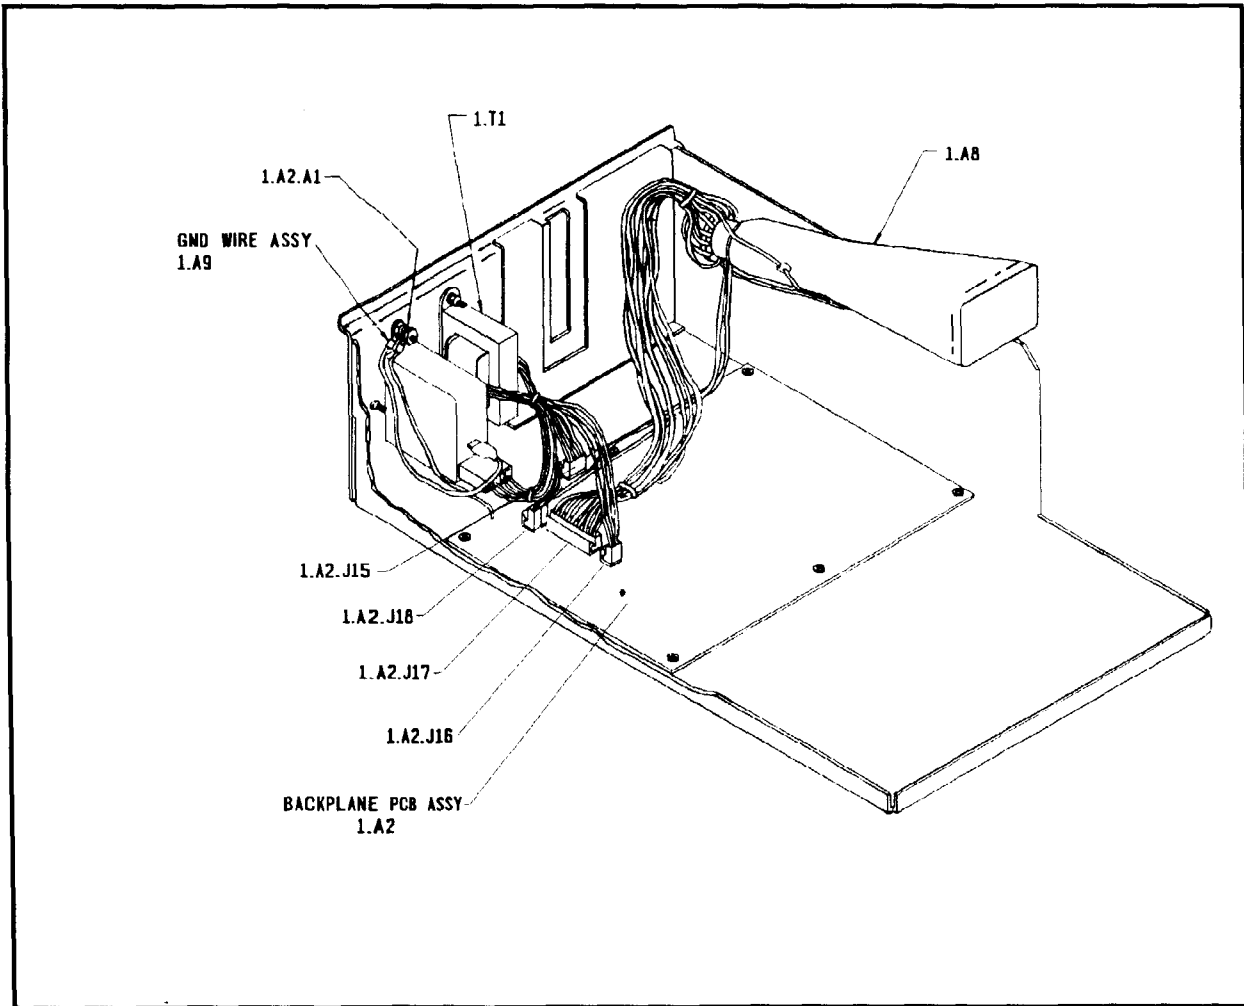
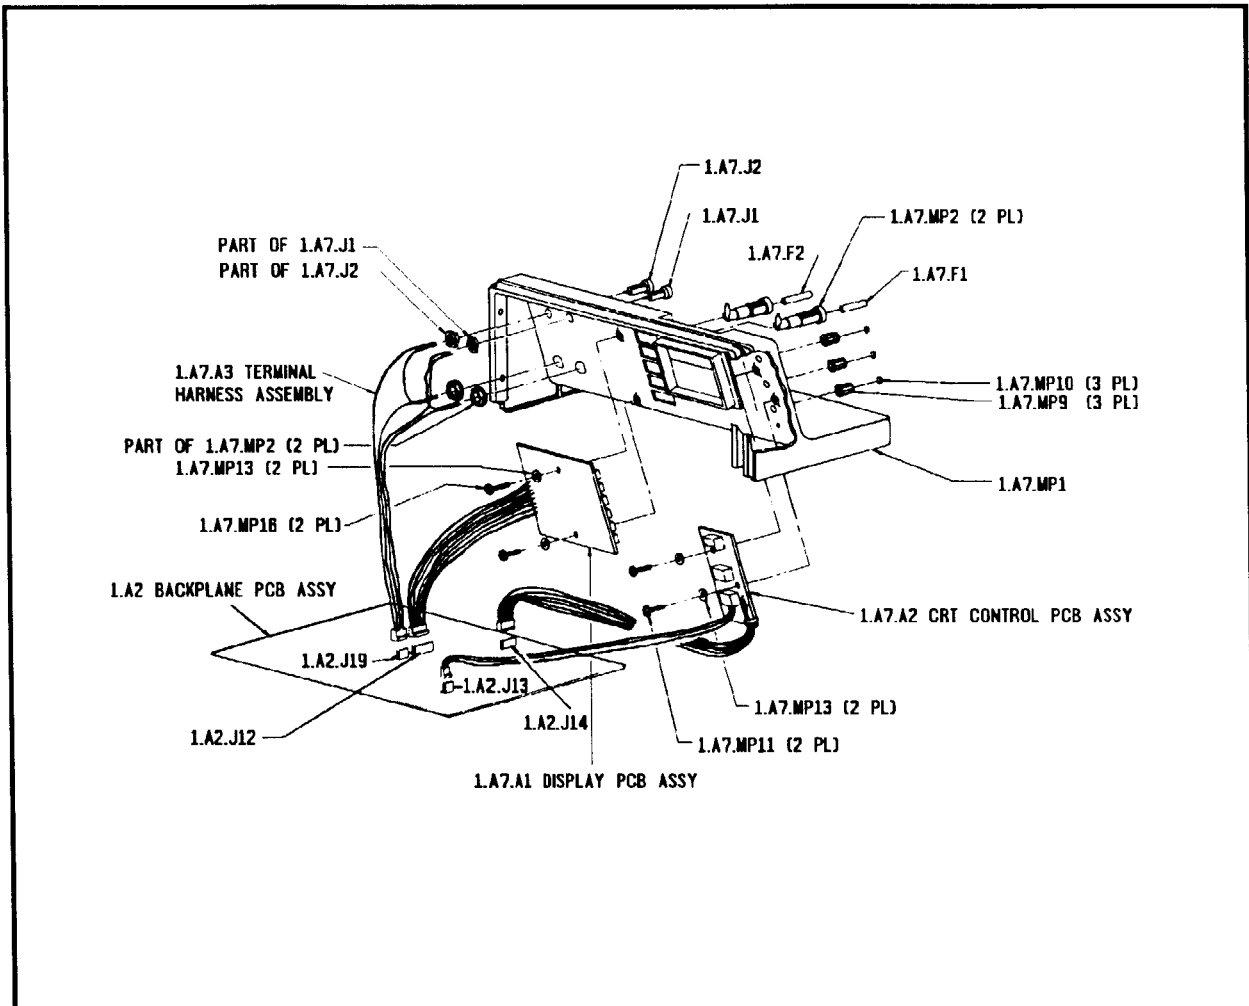

Figure 3-4. Backplane PCB Interconnections to CRT and Power Transformer.
Figure 3-7. Front Control Assembly Interconnections, Display PCB Removal, CRT Control PCB Removal.
6. CRT Assembly Removal (refer to Figure 3-4 and 3-5)
Remove the two screws (1.MP12) from Quad PCB Support (1.MP5), if used. Take out support assembly. Disconnect wiring harness from Backplane PCB at connectors 1.A2.J15, 1.A2.J16, and 1.A2.J18 (see Figure 3-4). Disconnect green ground wire (1.A2.A1) of Backplane PCB from rear of chassis by removing nut (1.MP22) on chassis ground stud located above Power Entry Module (1.MP7). Disconnect ribbon cable (1.A10) from Input PCB Assembly (1.A4) at connector 1.A2.J11 on Backplane PCB. Disconnect wiring harness from Front Control Assembly to Backplane PCB at connectors 1.A2.J12, 1.A2.J13, 1.A2.J14, and 1.A2.J19 on Backplane PCB (see Figure 3-7). Remove three screws (1.MP12) that hold heatsink of Backplane PCB Assembly to side wall of chassis. Remove six screws (1.MP15) that retain PCB to bottom of chassis. Lift up to remove Backplane PCB Assembly (1.A2).
8. Front Control Assembly Removal (refer to Figures 3-7 and 3-8)
9. CRT Control PCB Removal (refer to Figure 3-7)
10. Display PCB Removal (refer to Figure 3-7)
12. Transformer / Power Entry Module Removal (refer to Figures 3-4 and 3-5)
1. Transformer / Power Entry Module Assembly (Figures 3-4 and 3-5)
3. Display PCB Assembly (Figure 3-7)
4. CRT Control PCB Assembly (Figure 3-7)
Place Backplane PCB Assembly (1.A2) in chassis over correct mounting posts. Secure PCB to chassis bottom with six screws (1.MP15) and washers (1.MP20). Secure PCB assembly heatsink bracket to side wall of chassis with three screws (1.MP12) and washers (1.MP19). Connect 64 conductor ribbon cable (1.A10) from Input PCB Assembly to connector 1.A2.J11 on Backplane PCB. Connect wiring harness from Front Control Assembly to connectors 1.A2.J12, 1.A2.J13, 1.A2.J14, and 1.A2.J19 on Backplane PCB (see Figure 3-7). Connect Power Transformer Assembly wiring harness to connectors 1.A2.J15, 1.A2.J16, and 1.A2.J18. Attach green ground wire (1.A2.A1) from Backplane PCB to chassis ground stud with nut (1.MP22). Locate Quad PCB support (1.MP5) to side of chassis and fasten with two screws (1.MP12) and washers (1.MP19).
7. CRT Assembly (Figures 3-4 and 3-5)